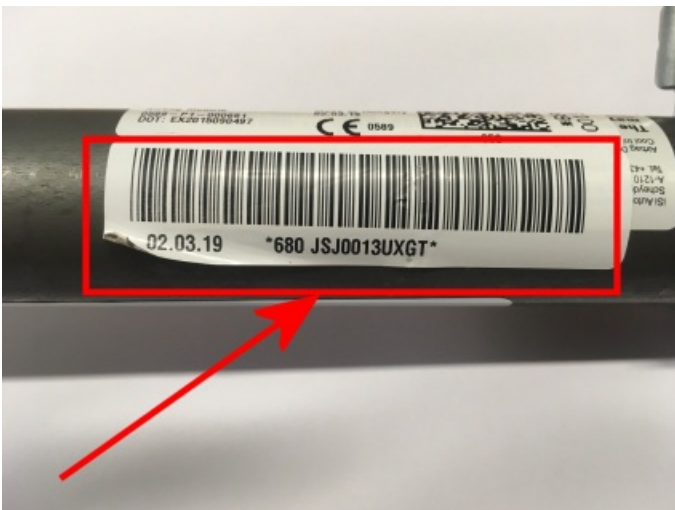

Figure 2
- 4) Take a clear photograph of the right and left hand curtain airbag serial number – see Figure 2 as an example